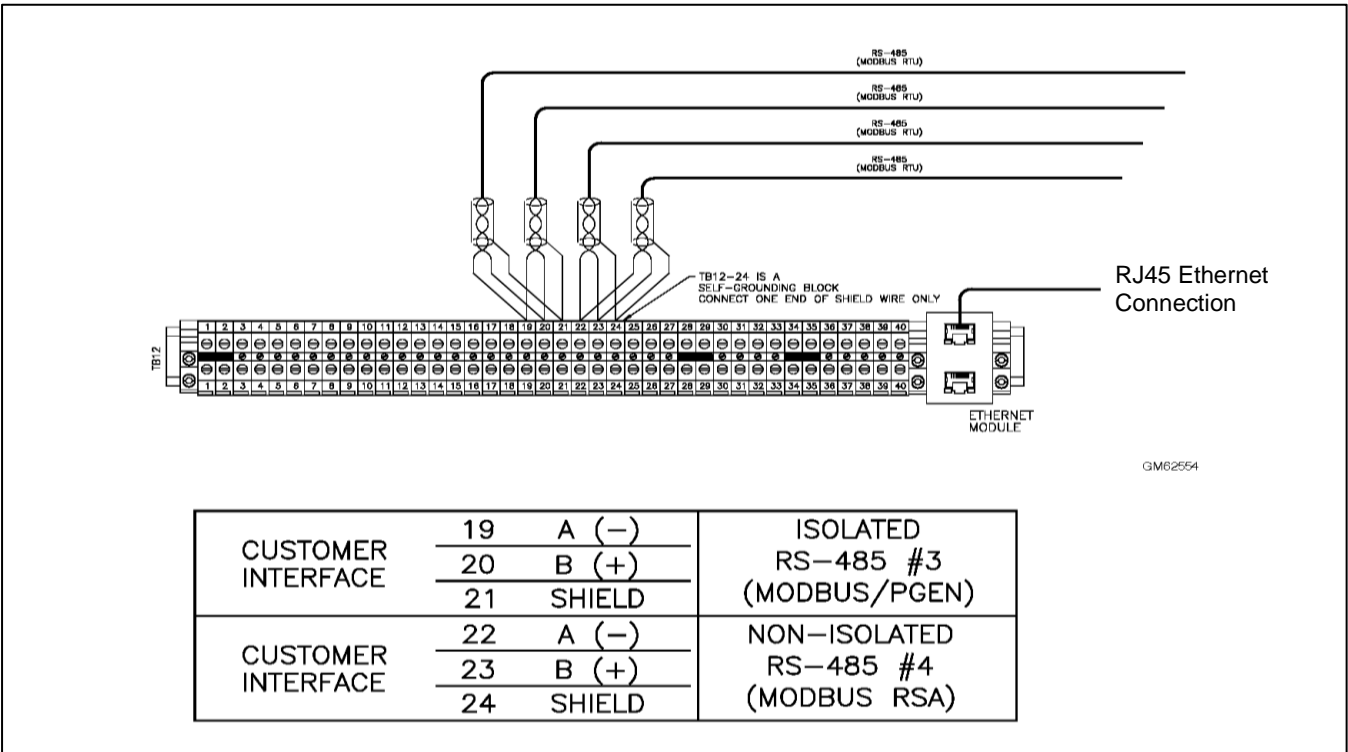

Figure 7 Connections, John Deere Models
Use the following procedure to connect the hardware. Observe the safety precautions. See Figure 7 and the network connection diagram GM62554.
5. Connect to the RS-485 communication port on the customer connection terminal block as shown in Figure 7.
Connect the network cable to the RJ45 port on the Ethernet module shown in Figure 7.